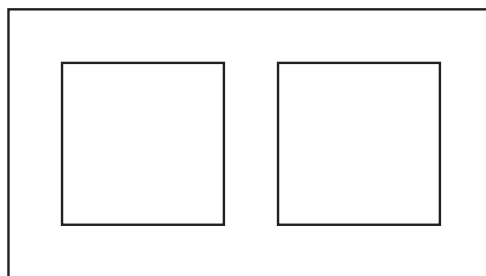

Fig. 4-5
2. Create a new drawing file named **prb4-2.dwg** and store it in the folder named after yourself. Draw the concrete block shown in Fig. 4-5 using the most efficient method(s) of entering the **LINE** command.